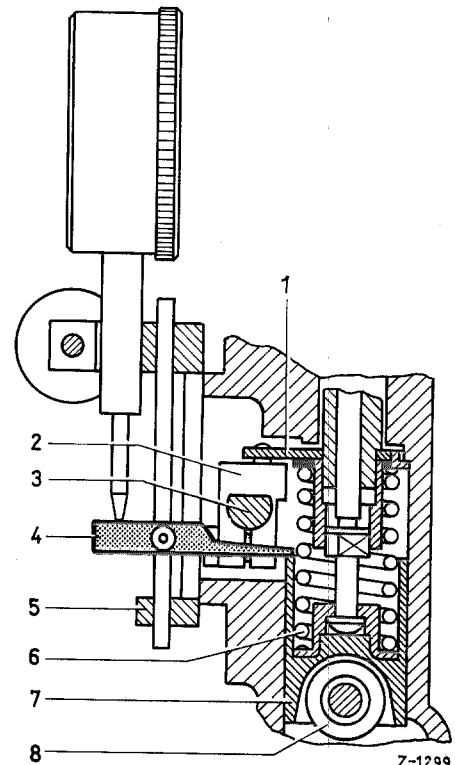

Figure 07-5/6a
Note: With the OM 621, it is not possible to go on turning to TDC when the measuring device is mounted, because the feeler (4) of the measuring device strikes the control rod (3) (see Figure 07-5/6a).
The needle (8) at the graduation scale of the test stand has to be adjusted to a number favorable for further testing (see Figure 07-5/3).